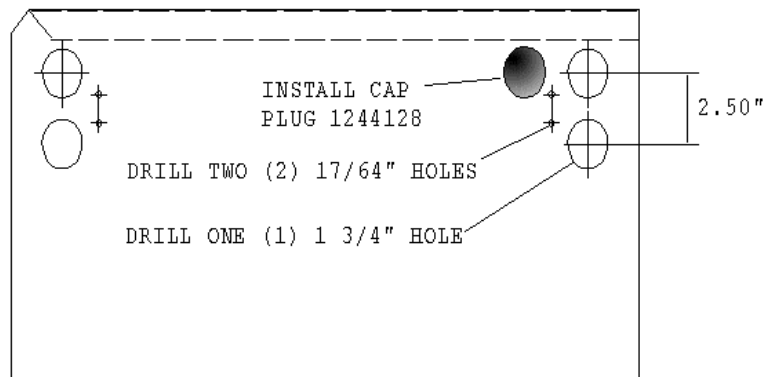

Figure 1
6. Drill a 1 3/4" diameter hole directly below rearmost battery cable hole. See Figure 1. Install new neoprene grommet over cable and route positive cable through new hole. Install new neoprene grommet into hole to protect cable.
7. Remove rubber grommet from hole directly behind battery hold down. Install cap plug (#1244128) as indicated by shaded area in Figure 1 on page 1.